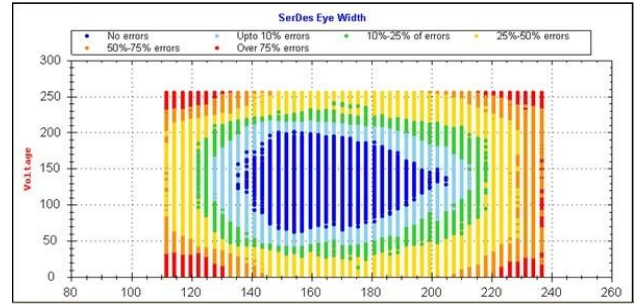

Figure 3. SerDes Eye Capture
In Single-Host mode, the PEX8714 supports a **Non-Transparent (NT) Port**, which enables the implementation of **dual-host systems** for redundancy and host failover capability. The NT port allows systems to isolate host memory domains by presenting the processor subsystem as an endpoint rather than another memory system. Base address registers are used to translate addresses; doorbell registers are used to send interrupts between the address domains; and scratchpad registers (accessible by both CPUs) allow inter-processor communication (see Figure 3).